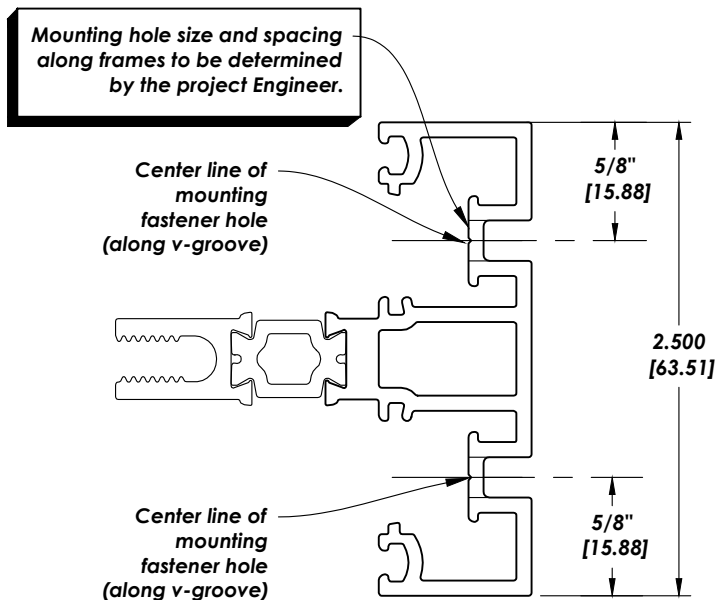
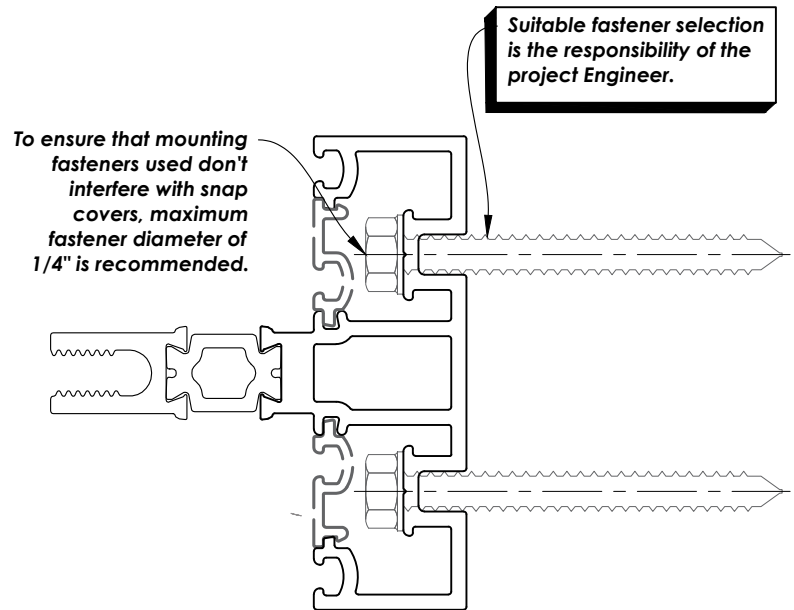

Fig. 1 Pre-drill mullions in the locations shown for the specified mounting fasteners.
Fig. 2 Maximum 1/4" fastener diameter recommended. (#12 fasteners shown)
- Pre-drill the mullions for the appropriate mounting fasteners. **See Figure 1.** Frame fastener type and spacing along the mullion is to be determined by the project Engineer, considering the project requirements and mounting substrate. The maximum recommended mounting fastener diameter allowable in this system is $\text{Ø}1/4"$. Exceeding this fastener size may result in the fastener snap covers and glass chairs interfering with the mounting fasteners. **See Figure 2.**